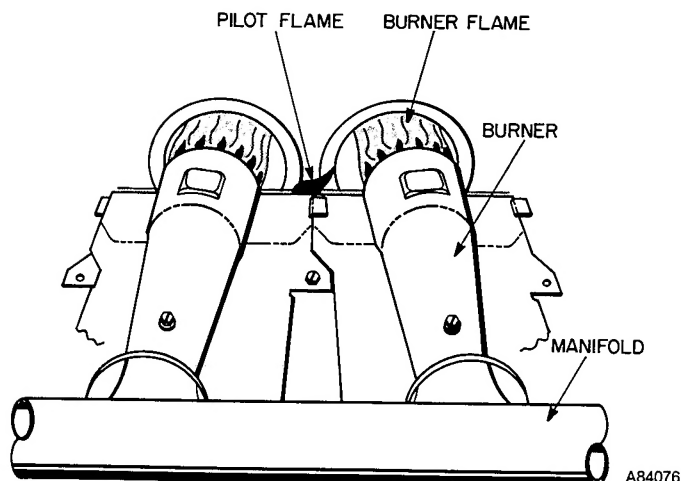

Fig. 7—Proper Pilot and Burner Flames
3. Look through sight glass in burner enclosure and check burner and pilot flame. The main burner flame should be clear blue, almost transparent. The pilot flame should be well defined. See Fig. 7.